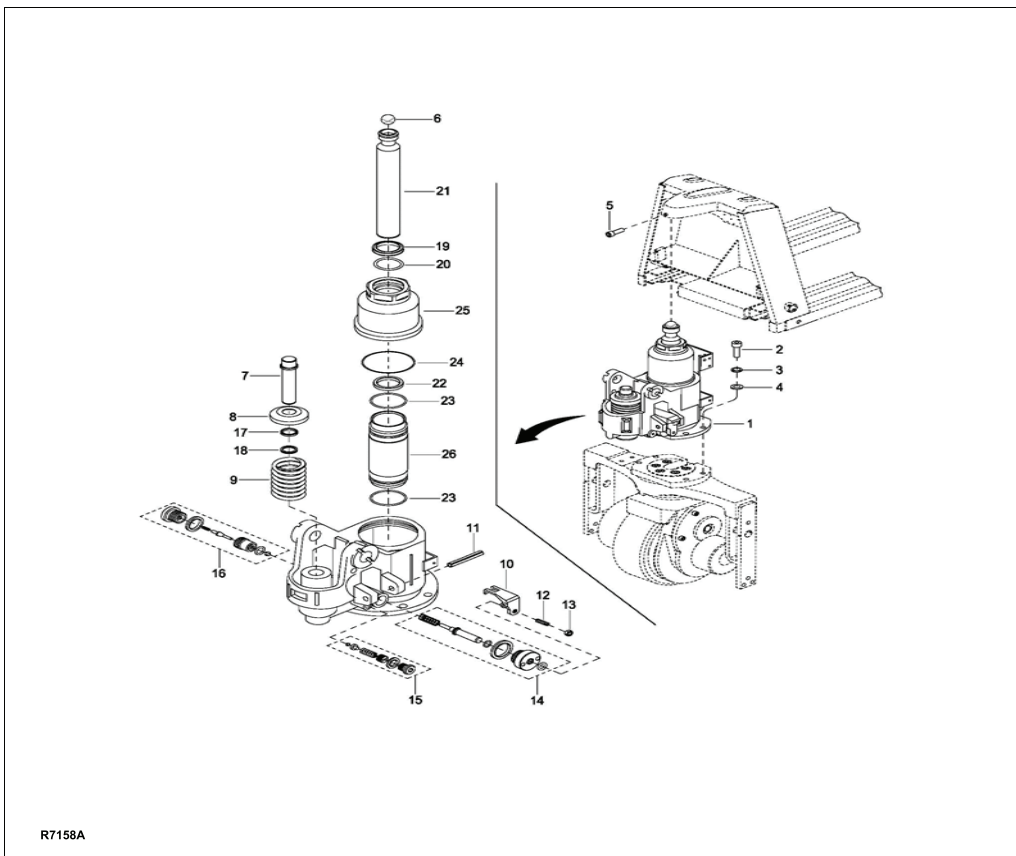

Figure 9-1 Hydraulic System
3. Remove screw (5, Figure 9-1).
4. Lift the fork frame high enough to free piston rod (7) from the frame. Provide blocking under forks.
8. Remove four screws (2, Figure 9-1), four lock washers (3), four flat washers (4) and assembly (1).
1. Position assembly (1, Figure 9-1) on the frame and secure with four screws (2), four lock washers (3), four flat washers (4).
2. Lift the fork frame and remove blocking from under forks. Slowly lower the fork frame inserting piston rod (7) in position in the fork frame.
3. Install screw (5).
4. Refer to Figure 9-1 for disassembly.